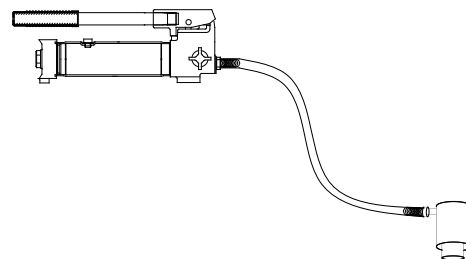

Figure 2 - Illustration to bleed air from system
1. Place pump at a higher elevation than the hose and cylinder as shown in figure 2 below.